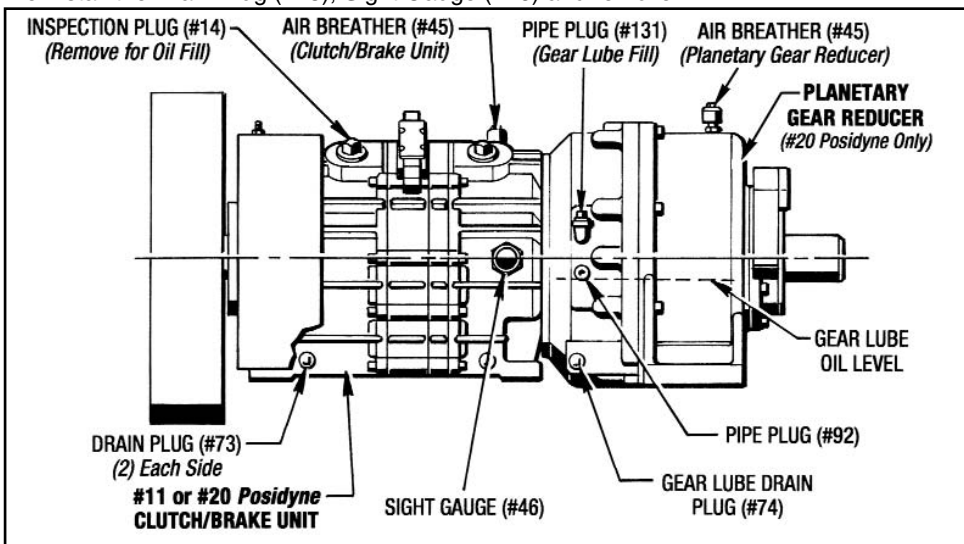

Figure 6- Lubrication
(See Figure 6)
(See Figures 6 and 7)
Remove Pipe Plugs (#131) and (#92) and fill the Transfer Case until the oil starts to come out the "Oil Level Hole" as shown in Figure 6. The Gear Reducer hold approx. 10 Qts. (2-1/2 Gal.) of Gear Lube. Replace the (2) Pipe Plugs (#131) and (#92).